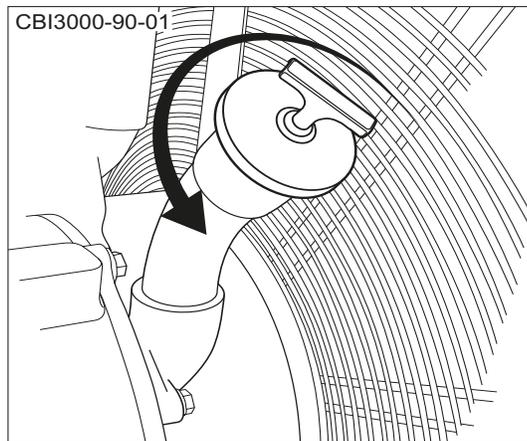

Figure 6.29 - Remove Fill Plug
4. Remove Fill Plug - Unscrew the plug from the filler neck on the side of the engine (Figure 6.29).